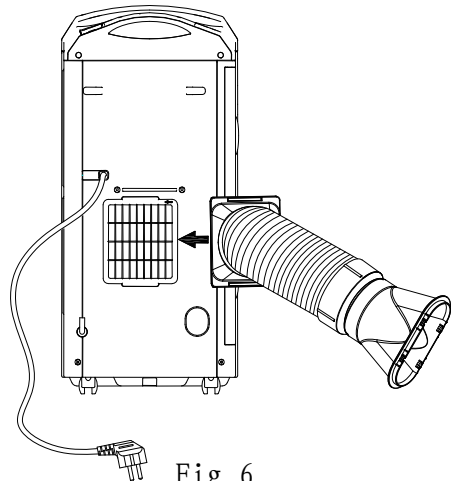

Fig 6
1) Fix the square end of the exhaust duct to the exhaust terminal of the unit. (Fig.6)